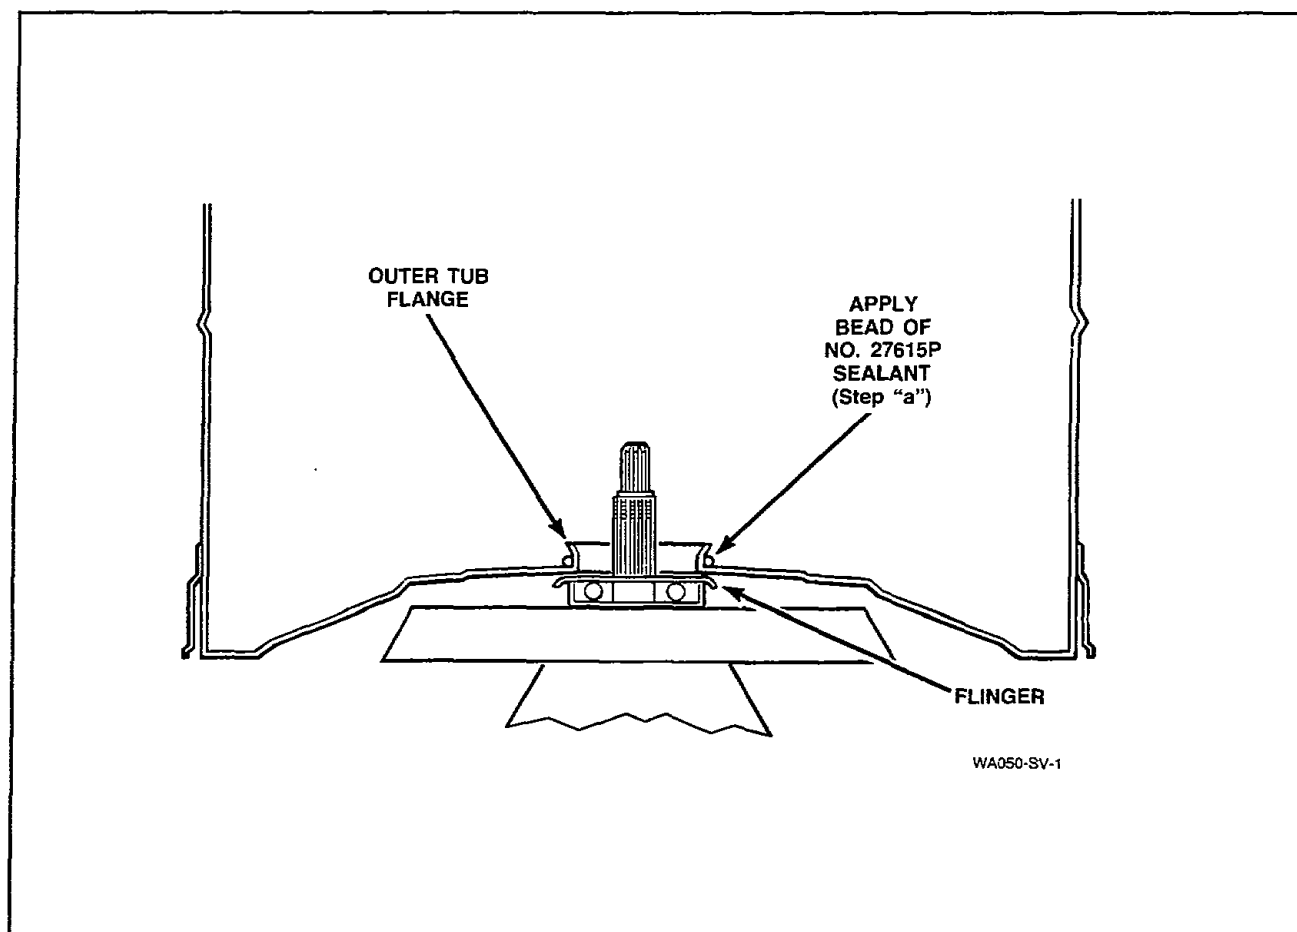

Figure 39
- a. Apply a small amount of 27615P Sealant, (supplied in kit) around the outer surface of the tub flange, *Figure 39*.